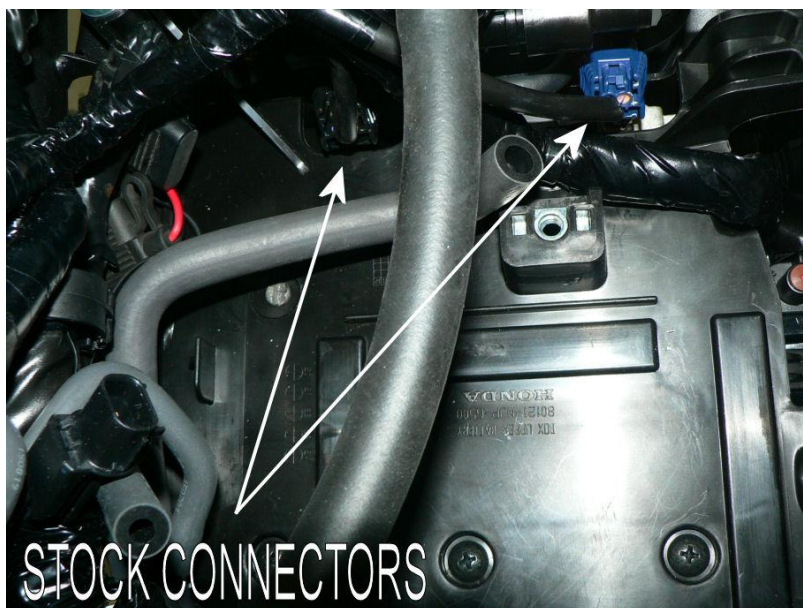

Fig.1
3. Locate and disconnect the black 2 pin connector and the blue 2 pin connector (**Fig.1**).